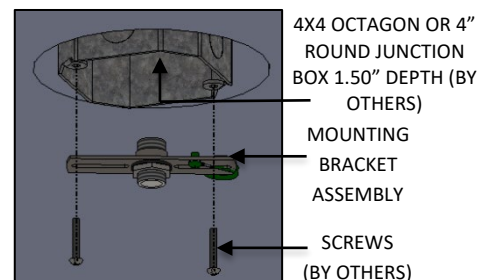

FIG. 17 - MOUNTING BRACKET ASSEMBLY INSTALLATION
2. Attach MOUNTING BRACKET TO JUNCTION BOX (BY OTHER) as shown in FIG.17.